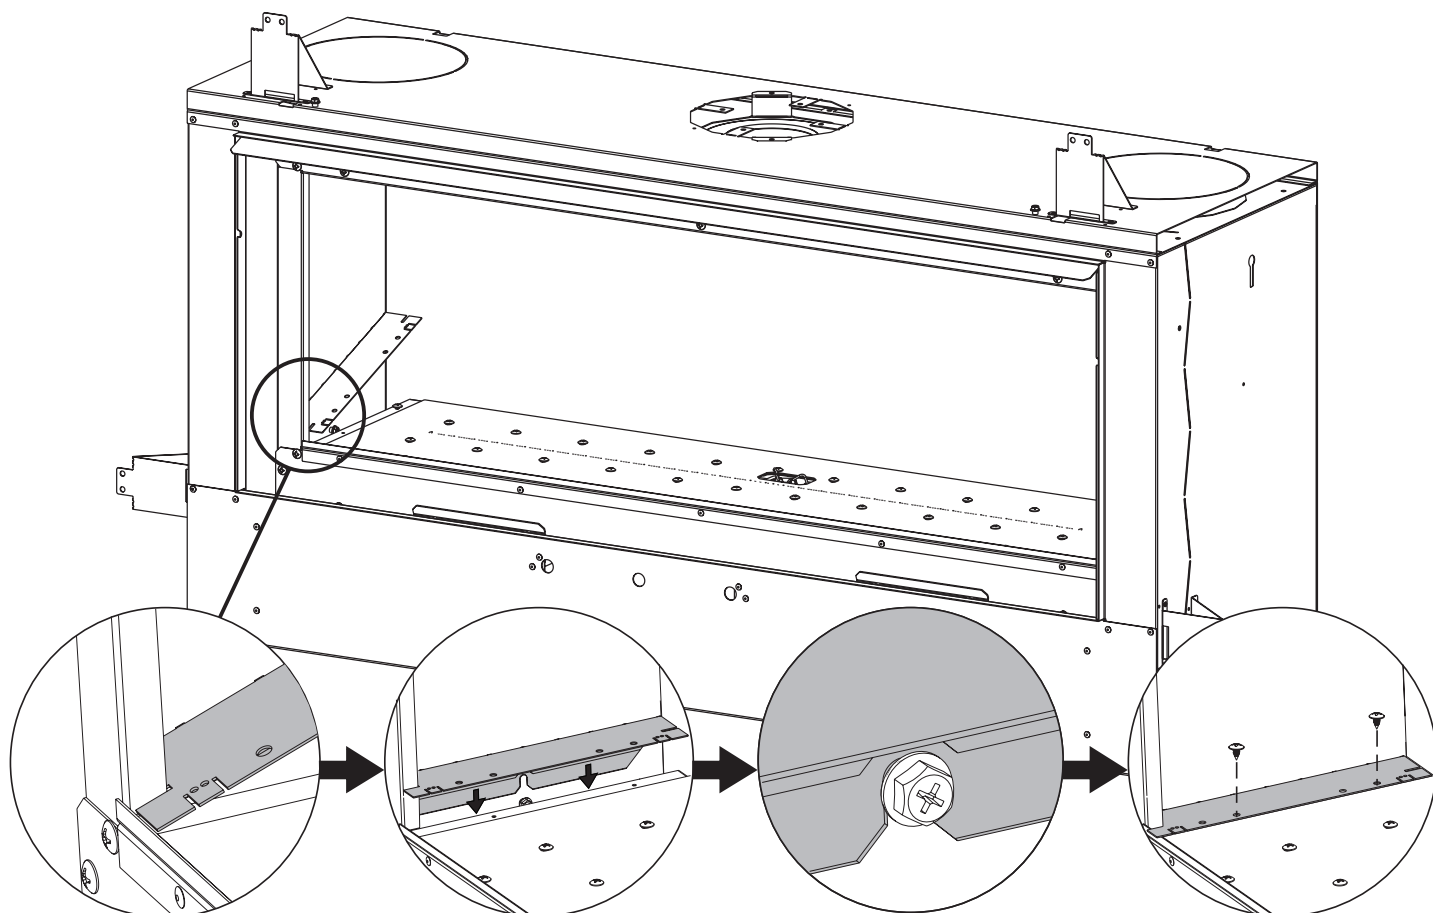

Figure 65
2. Attach Burner Surround Extension to Burner Surround as shown in **Figure 65**, using four (4) #8 x 1/2" Truss-Head screws (included in hardware pack).